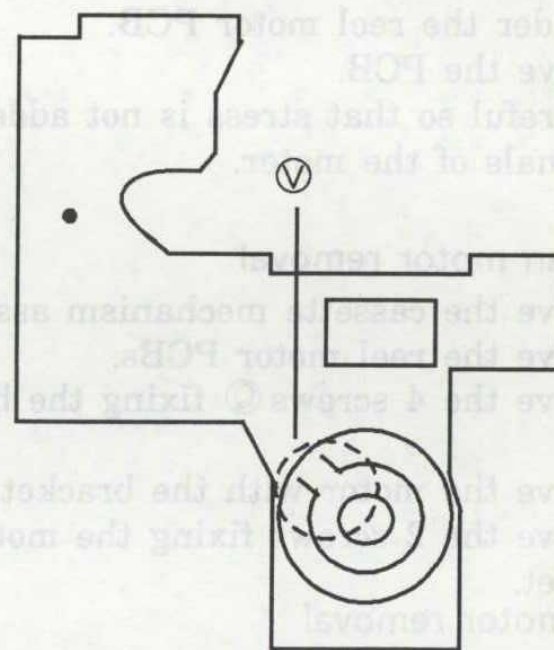

Fig 22
When assembling the cam switch, install it so that the part ⑤ meets the part ⑥ (Fig 22).